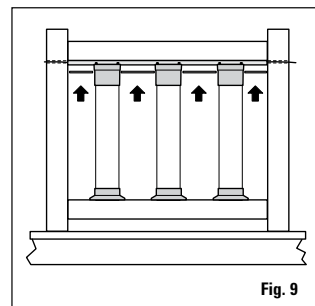

Fig. 9
After installing the balusters, measure space between the top connectors and trim wireway covers (T5) to fit. Insert the legs of the wireway covers into the wireway channel and press firmly until cover snaps into place. (Fig. 9)
- b. Insert bottom end of baluster into slotted opening of bottom connector (B1) and slide until the baluster completely sits inside the connector. Slide connector sleeve down to cover bottom connector. Twist connector sleeve until firmly secured. (Figure 9)